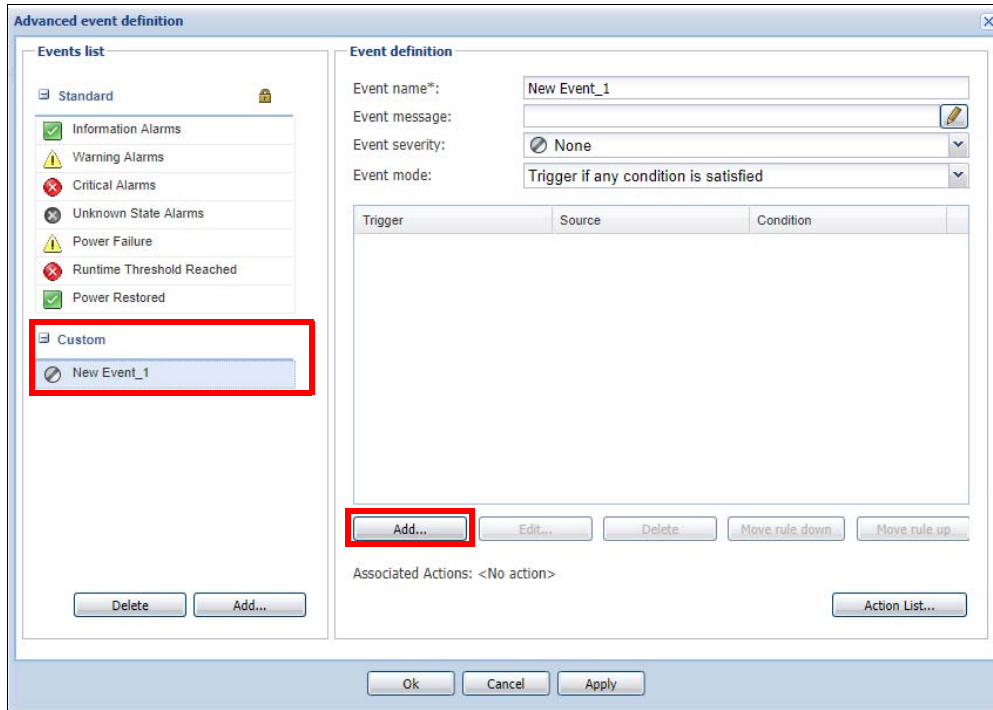

Figure 39 Custom event
4. Select **New blank event** radio button and select **Ok**. A new custom event will be created. Click the **Add** button to define the custom event as shown in Figure 39.